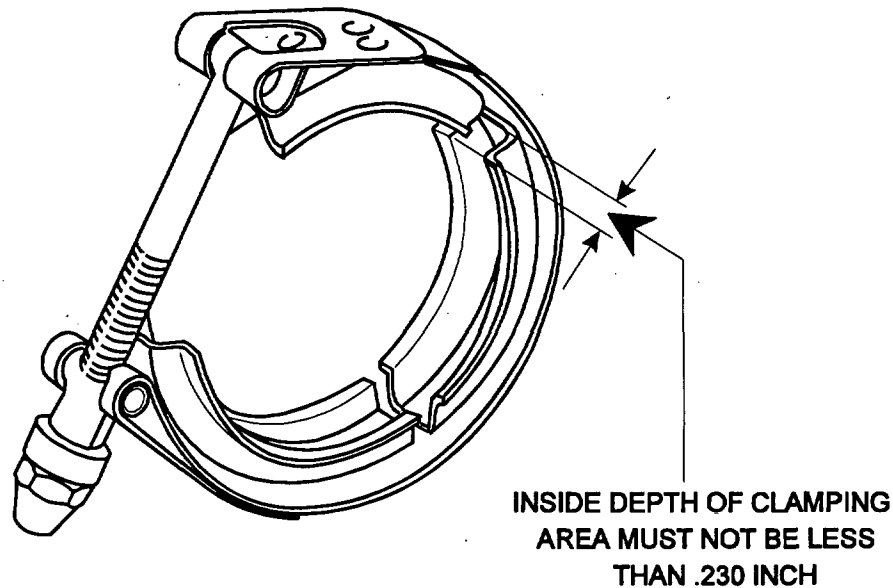

Figure 6. V-Band Coupling Inspection Requirement
2. Inspect the three V-band sections of each coupling with a depth micrometer in the area as shown in Figure 6. Any dimension obtained under .230 inch renders the coupling unfit for further service.